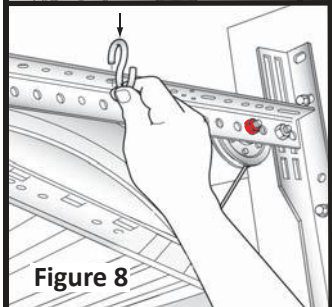

Figure 8
**Step 8:** Attach the "S" Hook to the right side Horizontal Angle (Fig 8) in a hole approximately 9"-12" back from the header.